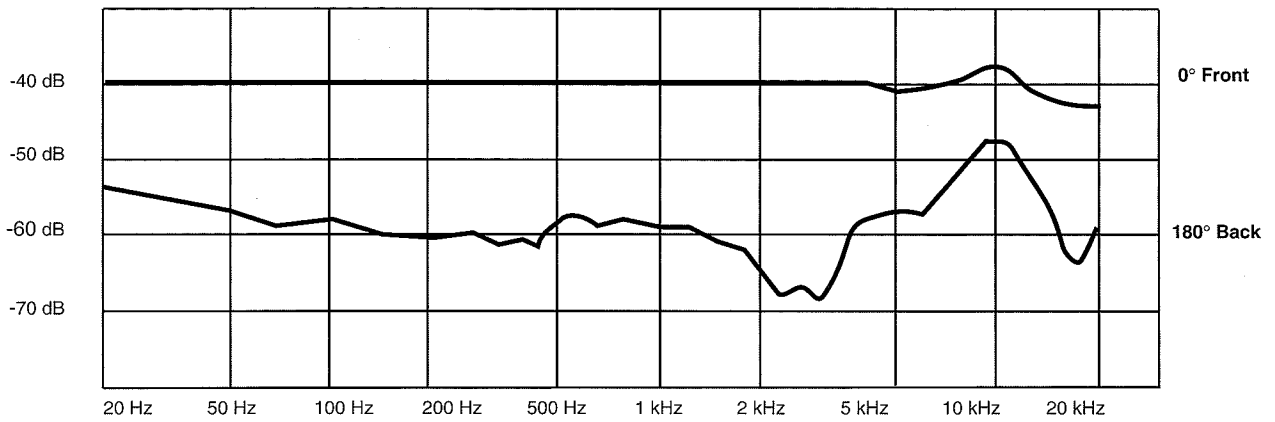

figure 2. Front-to-Back Response
**Front to Back Rejection:** *(see figure 2)*